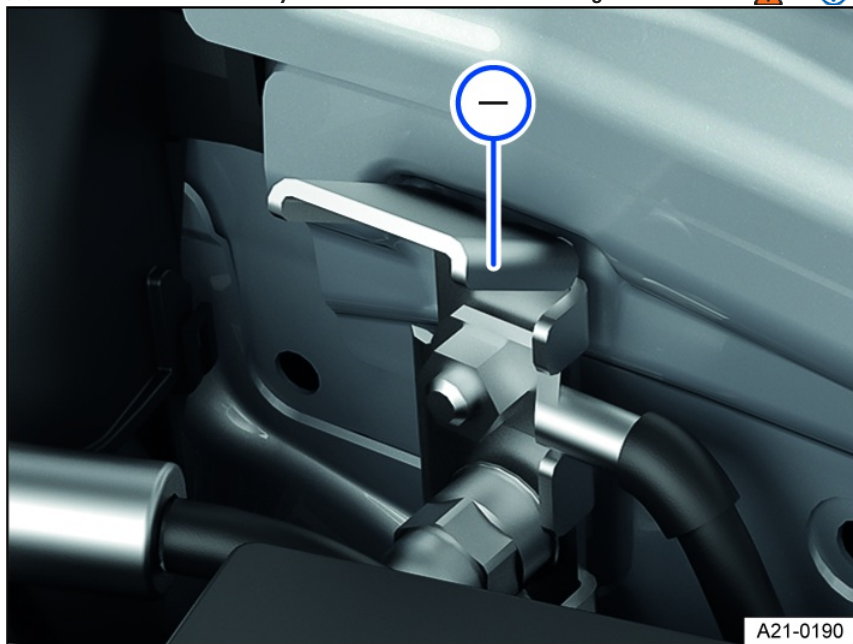

Fig. 182 In the engine compartment: Negative terminal jump-start point.
- The jump-start point (negative terminal) is for connecting the black jumper cable *fig. 182*.